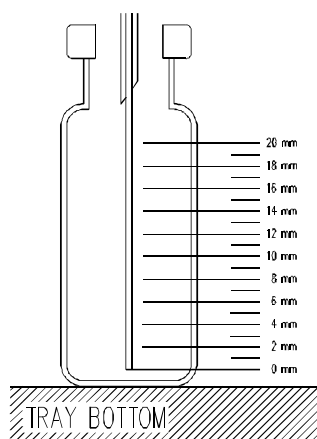

Fig. 24. Needle height.
- **needle height:** distance between the needlepoint and a reference point, a few millimetres above the bottom of the sample tray (Not the bottom of the vial, see Fig. 24), can be programmed. The value in the system settings is only used in injection methods, for mix methods this value is programmable in the method itself).